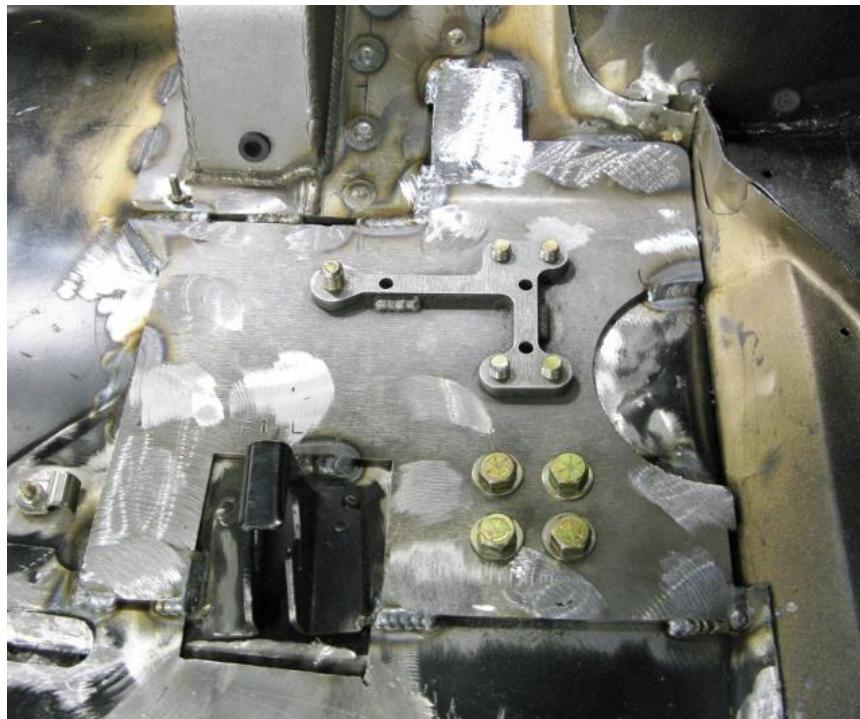

Figure 13 - Grind Welds Smooth
30. Repeat steps 28 and 29 for the opposite side of the vehicle. Grind the welds smooth for a clean finish (Figure 13).